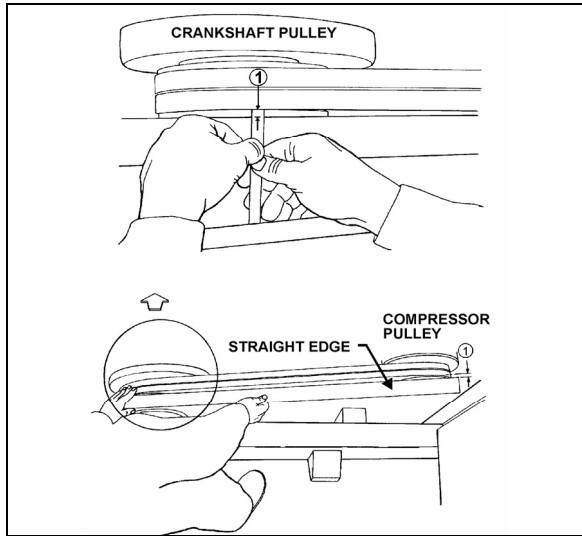

FIGURE 22: COMPRESSOR ALIGNMENT
2. Check the distance between each extremity of straight edge (1. Fig. 22) and the first drive belt. If they are different, loosen the compressor support bolts and with a hammer, knock support to slide it in order to obtain the same distance; then tighten bolts.
2. Check the distance between each extremity of straight edge (1, Fig. 22) and drive belt. If they are different, loosen the pillow block compressor bolts and with a hammer, knock compressor pillow block to slide it, in order to obtain the same distance; then tighten bolts.